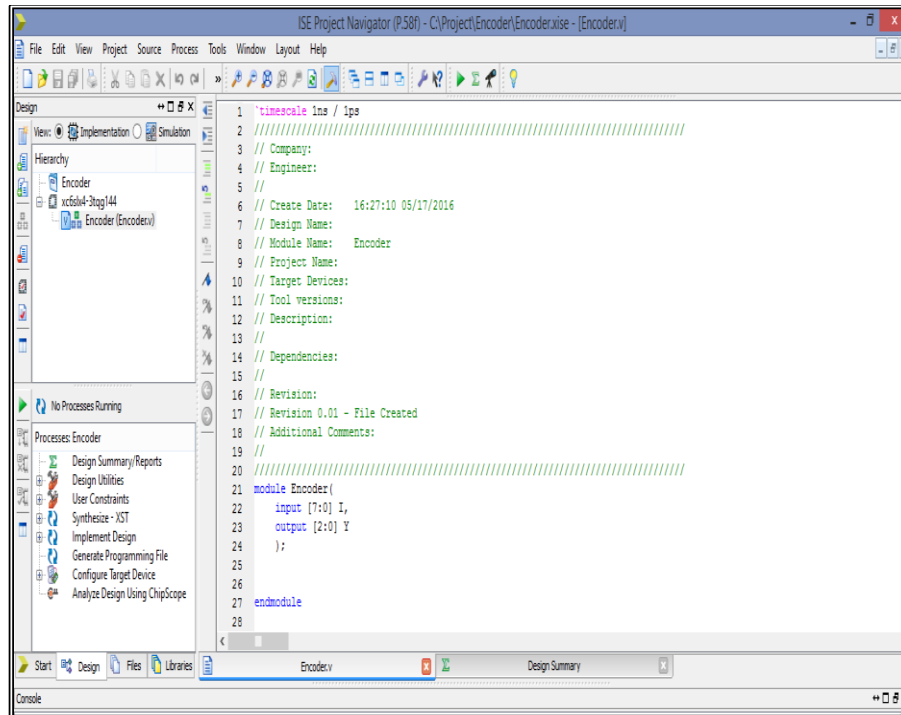

Fig 6.3: Encoder module structure
8. In the Xilinx ISE interface you can see that the new source file “Encoder.v” has been added to the project (Hierarchy window). In the ISE Text Editor, the ports are already declared in the Encoder HDL file, and some of the basic file structure is already in place (Fig 6.3).